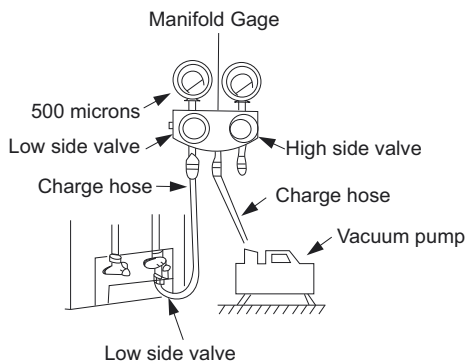

Fig. 9 – Manifold
- 3 Fully open the low side of the manifold gage (see Fig. 9).